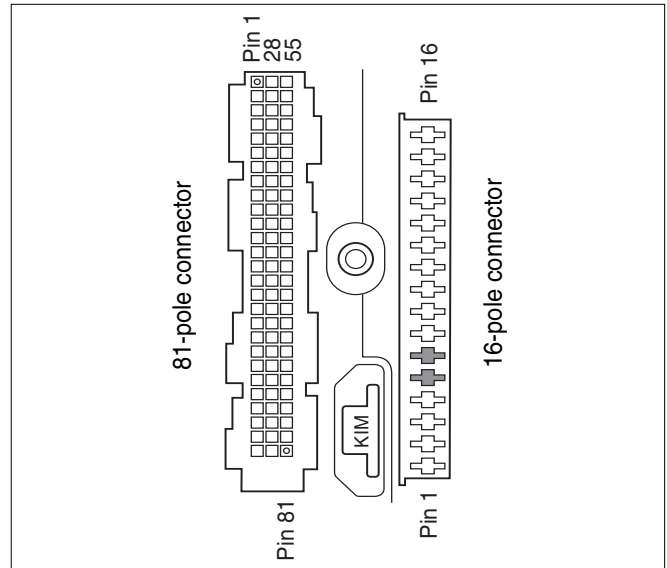
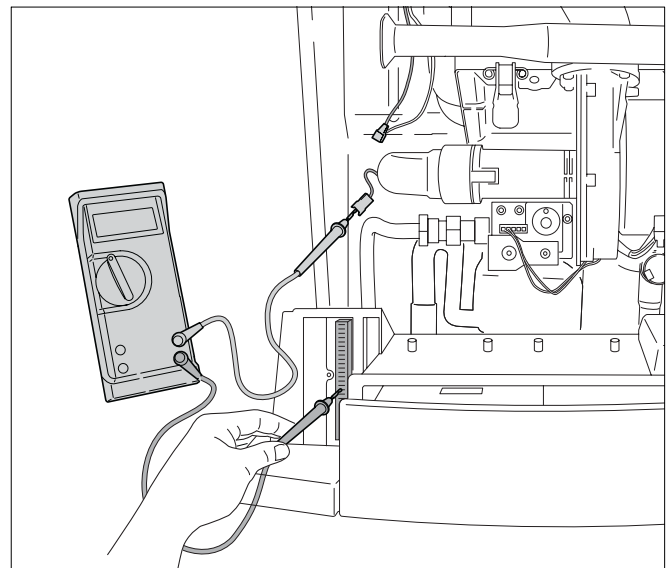

Fig. 61 UBA3 installation base
Fig. 62 Testing the supply cord of the hot surface ignitor
- Test the supply cord of the hot surface ignitor to make sure that there is no short circuit in it and that it is not broken (fig. 62, fig. 61 and fig. 25 on page 26).